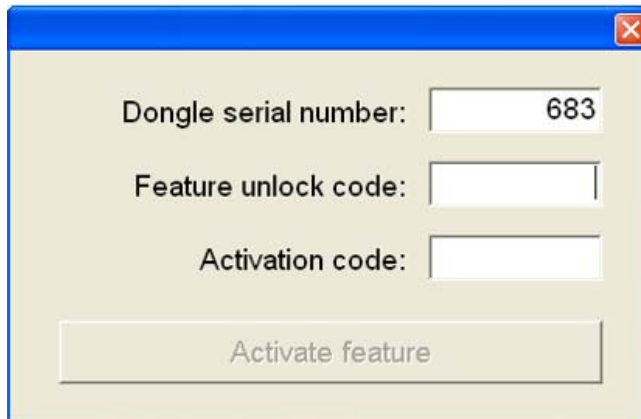

Figure 32: Add Feature window
44. Open the AddFeature.exe program. The Add Feature window appears (Figure 32).